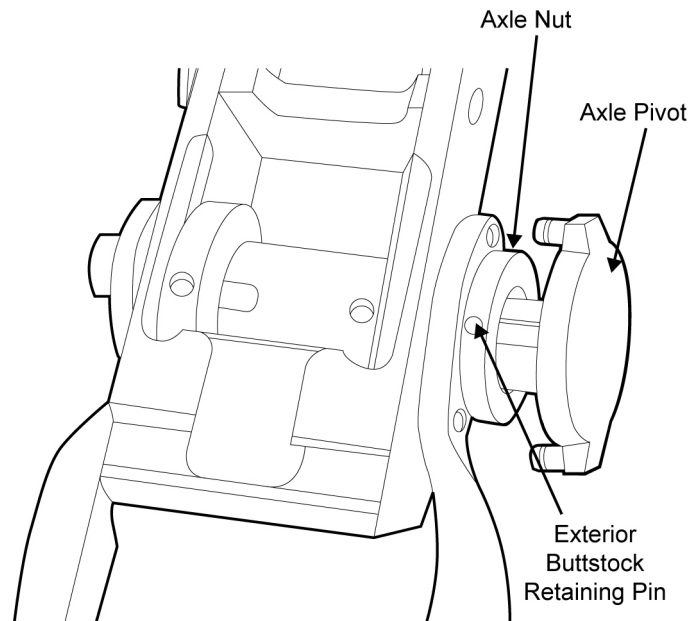

Figure 32. Removing the Exterior Buttstock Retaining Pin, Axle Pivot, and the Axle Nut.
- e. Pull the axle pivot out of the receiver only far enough to see the axle nut located against the right buttstock arm. Use a punch to push the exterior buttstock retaining pin out of the axle nut. Remove the buttstock retaining pin (which may be staked), remove the axle pivot, and unscrew the axle nut from the buttstock axle. Remove the axle pivot. Refer to Figure 32.